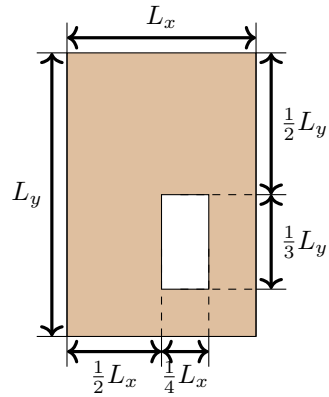

FIGURE 2. The location of the hole in the plate
- ii. Create a hole in the plate at the location indicated in Figure 2. For simplicity, you can consider zero Neumann boundary conditions on the boundary of the hole (the boundary conditions on the other edges do not change).